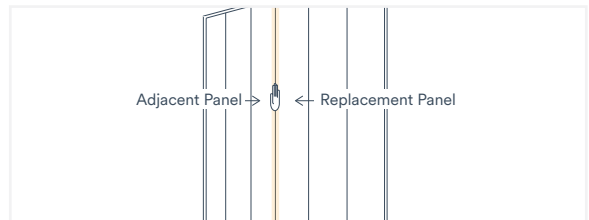

Fig. 40
10. Apply moderate uniform pressure along the seam of the replacement panel and the adjacent panel where the silicon was used to ensure best adhesion (Fig.40). If using a backer, apply the same pressure across the face of the replacement panel as well. Wipe away any excess silicon from the joint to complete the installation.